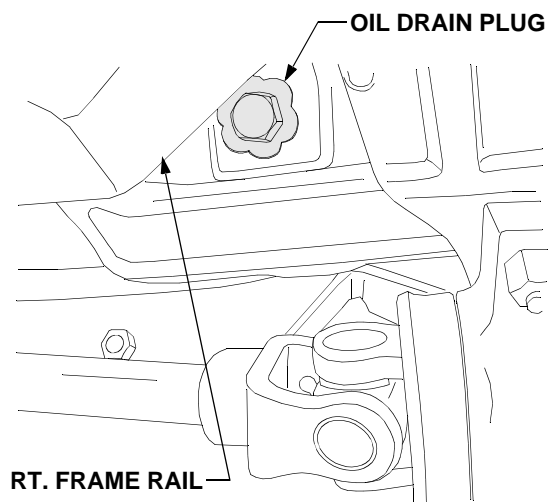

Figure 52
- Locate the engine drain plug on the *right* of the engine (See Figure 52). Place a suitable container below the drain plug to collect the old oil.
- Reinstall the drain plug in the engine and clean up any residual oil. Refer to Figure 52.